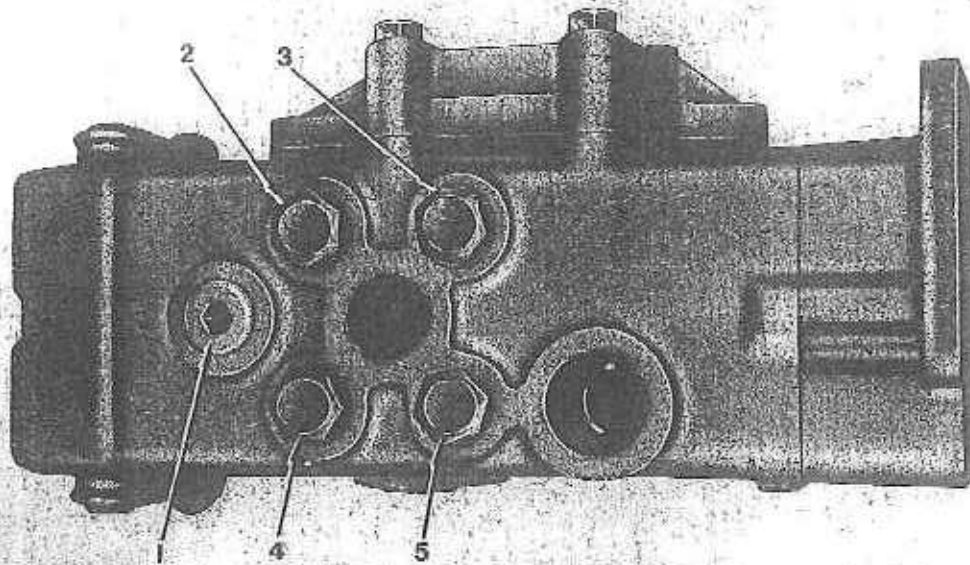

FIG 7
9. Replace the boom check valve (3), spring (2) and check valve body (1), renew the 'O' ring on the check valve body.
10. Replace the four circuit relief valves and the main relief valve, ensuring that they are fitted in their correct positions as shown in Fig. 7. Renew the 'O' ring on each valve.
11. (Fig. 7). Refit the restrictors in each of the ports connected to the head side of the rams. The restrictor with the largest hole dia. 0.205 in. (5 mm), is fitted in the lift ram port. The other restrictor with hole dia. 0.125 in. (3 mm) is fitted in the bucket ram port.
KEY TO FIG. 7